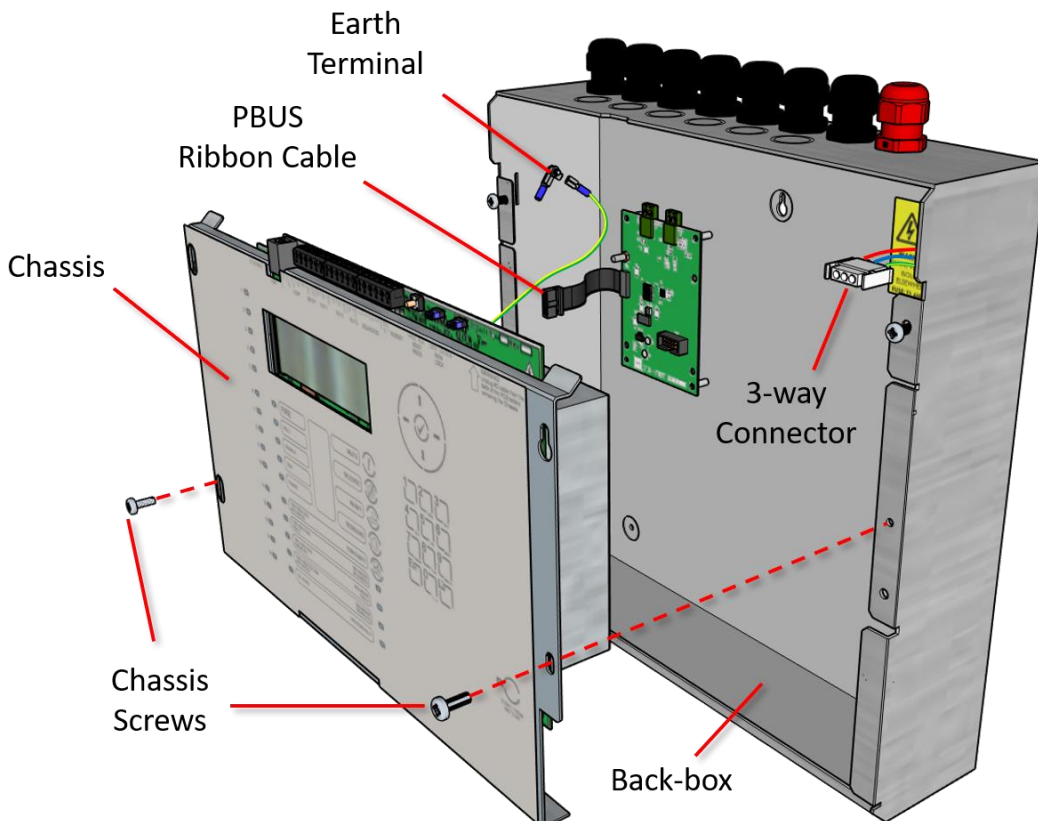

Figure 3 - Chassis Remove/Install
- Loosen the upper two screws holding the chassis to the back box and remove the two bottom screws (retain the screws). See Figure 3.